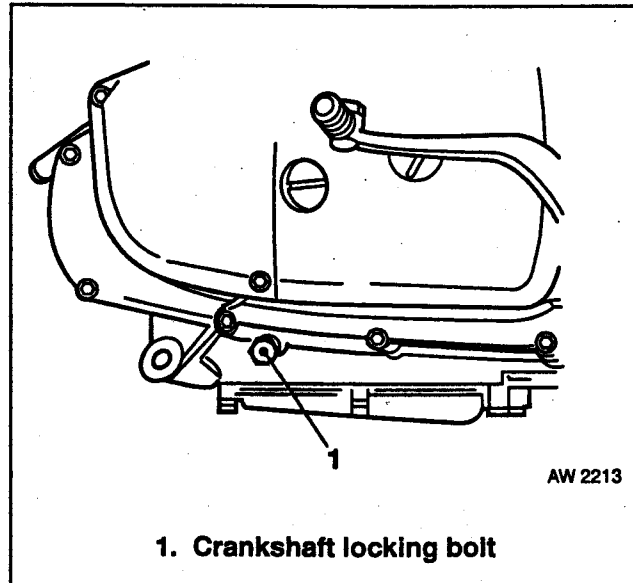

Fig 2.21 Crankshaft Locking
h. Timing Pulley Alignment – If belt only is being replaced ensure crankshaft is locked to TDC (Fig 2.21 refers).